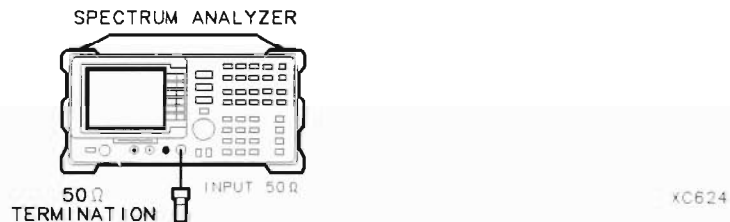

Figure 2-75. Residual Response Test Setup
1. Connect the termination to the spectrum analyzer input as shown in Figure 2-75.